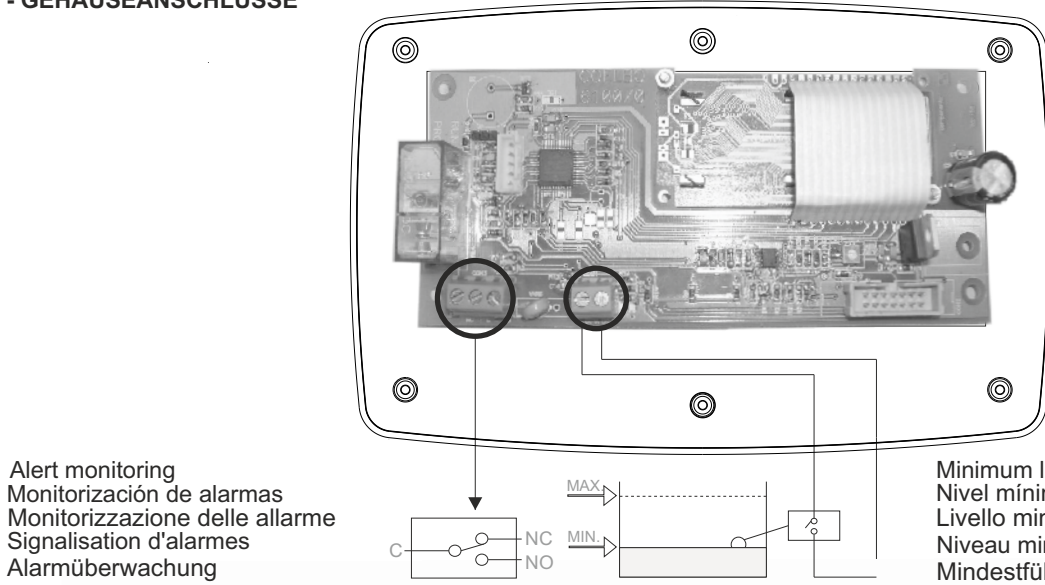

Fig. 4
- Alert monitoring: it has a volt-free contact with 1 A maximum intensity for the transmission of signals to different types of alarm equipment (optical, acoustic, etc) when a failure, which was previously displayed in the LCD screen, is detected. For connection, see Fig. 4.
- Min. level control: there is an input for stopping all the pumps as soon as the external switch for minimum level detection trips. For connection see Fig. 4.